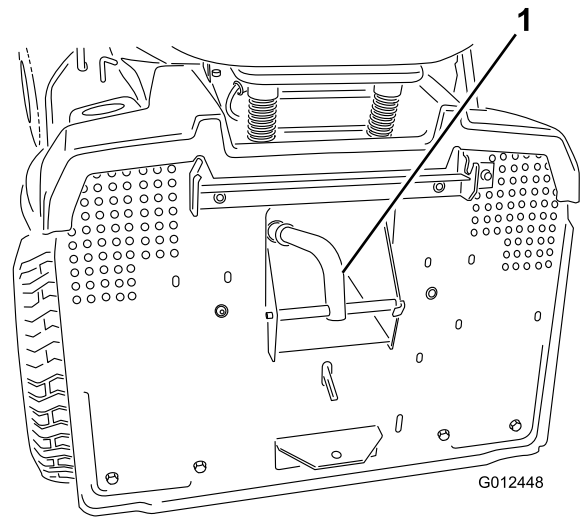
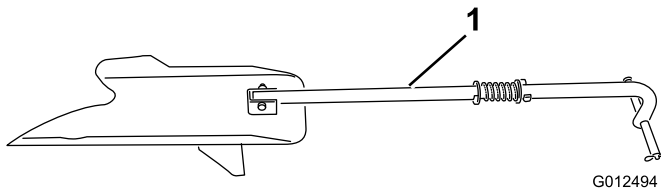

Figure 18
Figure 17
5. Insert the mulch plug (Figure 17) into the discharge opening at the rear of the machine, and hook it into the hole in the discharge chute (Figure 18).